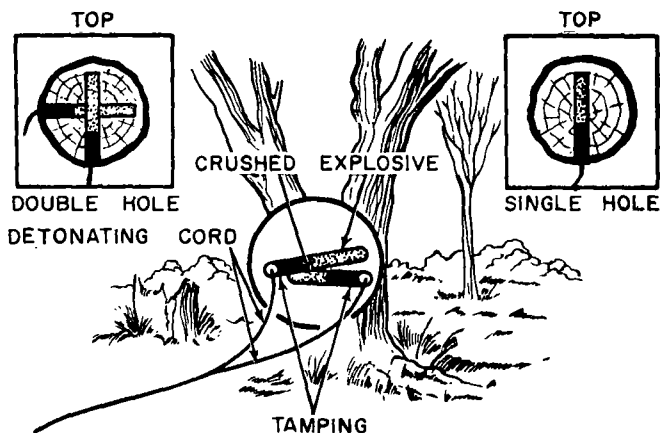

Figure 118. Internal charges to cut round timber.
- (2) Internal charges (fig. 118) are placed in boreholes parallel to the greatest dimension of timber cross section. They are tightly tamped with moist earth or clay. If the charge is too large for one borehole, two holes are bored close together at right angles and both fired simultaneously.